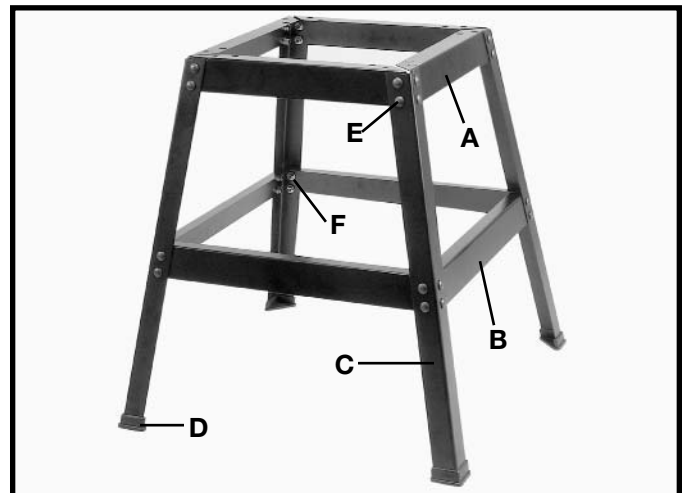

Fig. 3
* - Hex head flange screw M8x1.25x35mm (4) (For fastening planer to stand) * not shown
1. Align the holes in the bottom braces (B) Fig. 3 with the holes in the legs (C), insert a carriage bolt (E) through the leg and the bottom brace, and thread the flange nut (F) onto the carriage bolt. Repeat this process for the remaining holes in the bottom braces and table legs. Do not completely tighten hardware at this time.
2. Assemble the top braces (A) Fig. 3 to the legs (C) in the same manner as step 1.
3. Insert the rubber feet (D) Fig. 3 onto the end of the legs (C) and tighten all hardware at this time.